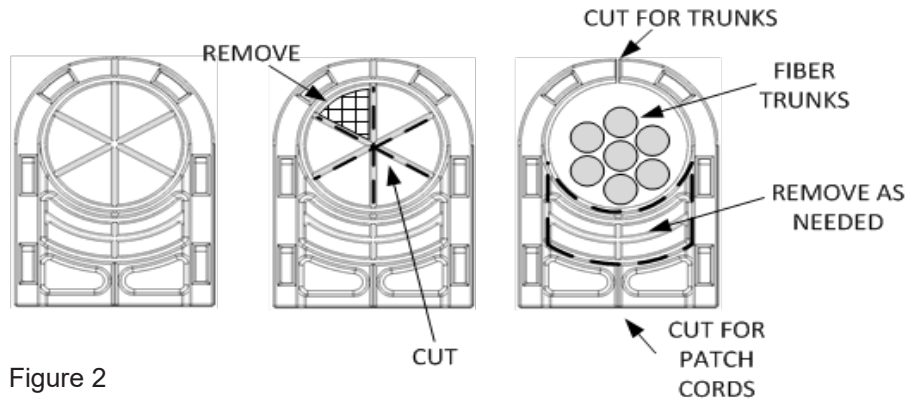

Figure 2
3. Using a sharp-edged tool, cut the appropriate opening in using the scored marking lines as shown in figure 2: